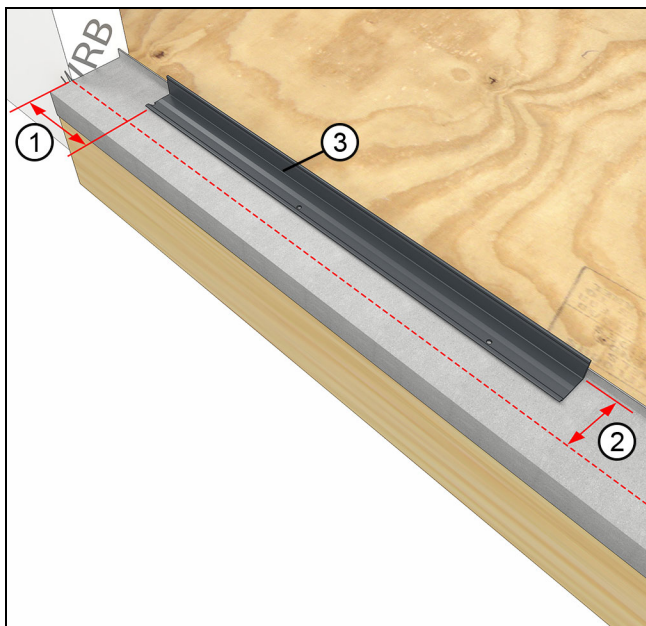

Figure 21
1. For configurations where the first unit you install in an opening is a door, measure 5 3/16" away from the rough opening and install the sill support 3 5/16" from the exterior sheathing line. See Figure 21.